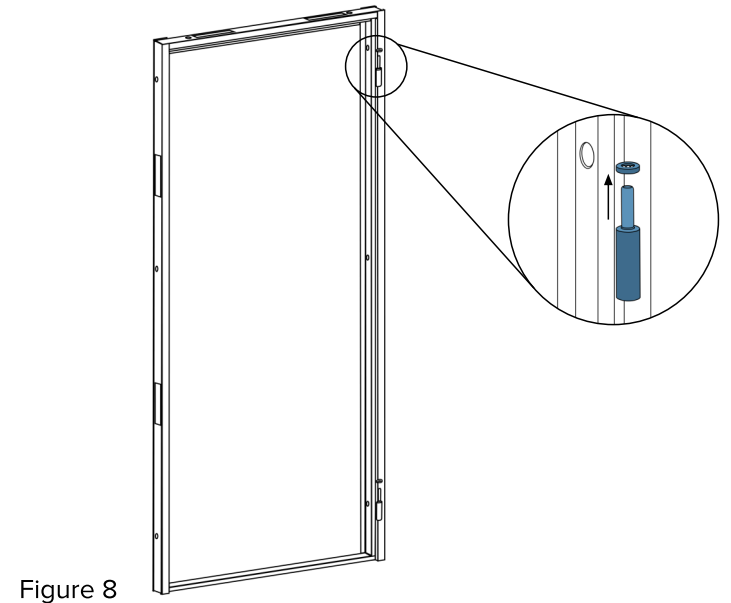

Figure 8
3.2. Remove all mounting bearings from hinges (figure 8).